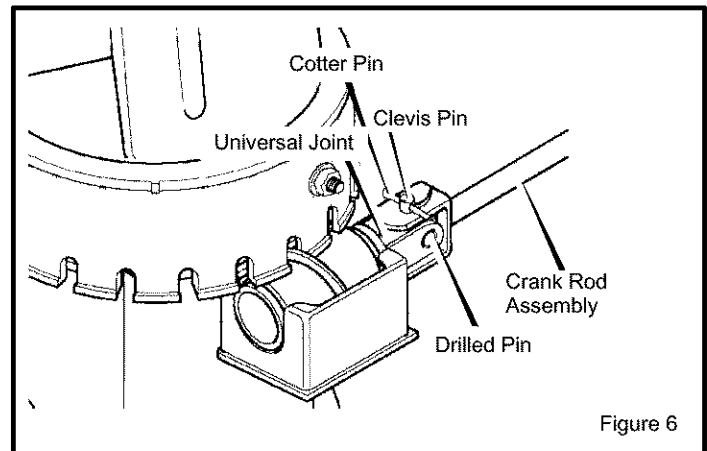

Figure 6
7. Carefully remove cotter pin, clevis pin, and universal joint pin from yoke end of crank rod assembly. (Figure 6)